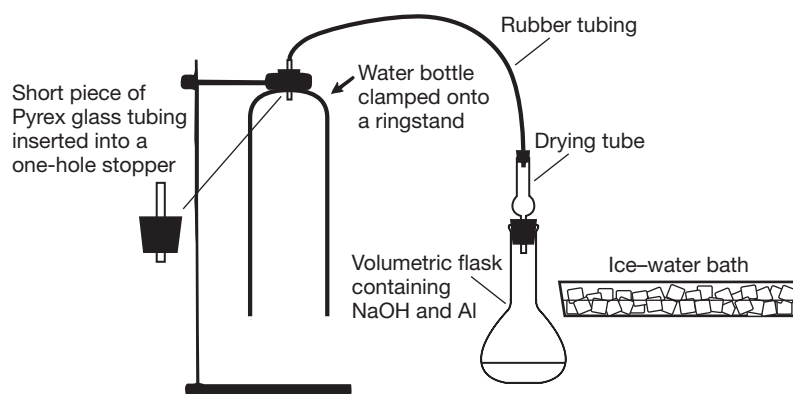

Figure 2.
3. Add the aluminum foil to the volumetric flask followed by 50 mL of 5.5 M sodium hydroxide solution. Seal the flask with a drying tube attached to the vent tube in the bottle. Swirl the mixture to completely wet the foil with sodium hydroxide solution. Place an ice-water bath nearby as it will become necessary to cool the reaction by immersing it in ice water (see Figure 2).